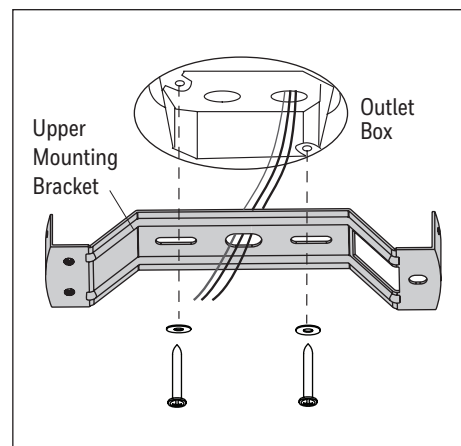

Figure 2.2
2. Install the upper mounting bracket to the outlet box (not included) using the screws and washers provided with the outlet box. **WARNING:** To reduce the risk of fire, electric shock, or personal injury, mount to the outlet box marked “acceptable for fan support” (Figure 2.2).